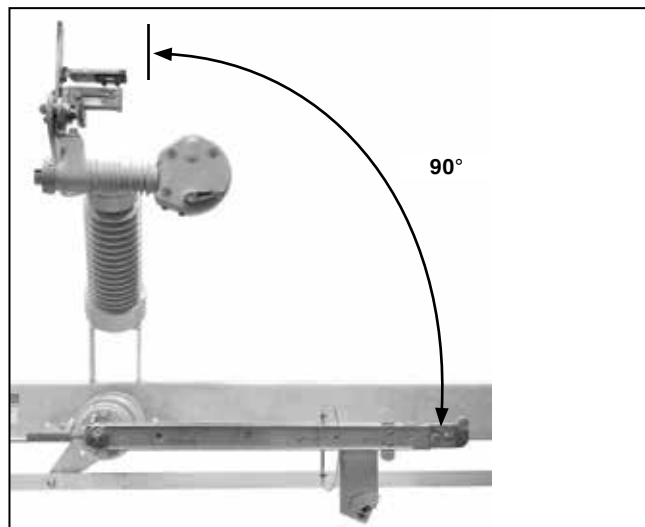

Figure 32. Checking that the switch blades are 90 degrees from the Closed position.
- (b) With the operating handle as far as it will go in the opening direction, the switch blades are 90 degrees from the **Closed** position. See Figure 32.